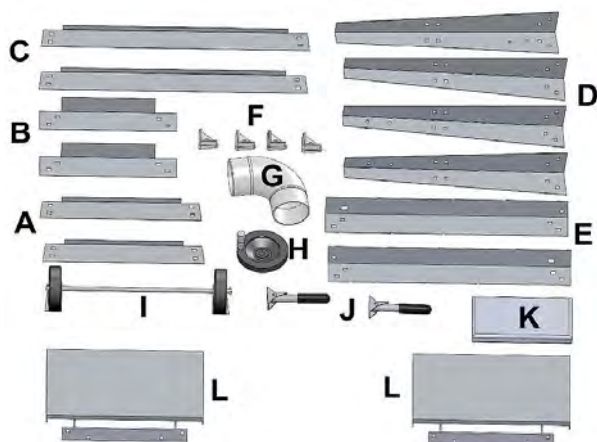

Fig. 7: Mounting parts of the machine
Step 2: Turn the cross struts (B and E, Fig.7) over and fold them rectangularly onto a flat surface.
Step 3: Connect the machine feet (D, Fig.7) to the upper crossbars (B and C, Fig.7) and hand-tighten the screws.
Step 4: Mount the lower cross braces (Fig.7) to the machine feet using the remaining screws.
Step 5: Insert rubber cover (F, Fig.7) at the bottom of the 4 feet.